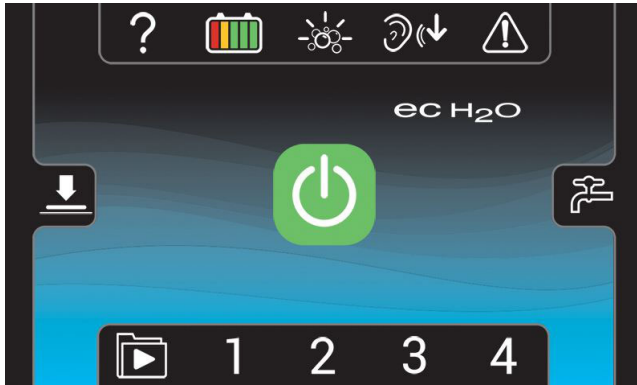

FIG. 144
**Operator Mode** - Capable of machine operation with permissions and restrictions controlled by the supervisor. The operator mode home screen restricts access to the machine settings button and maximum scrub speed button (Figure 144).